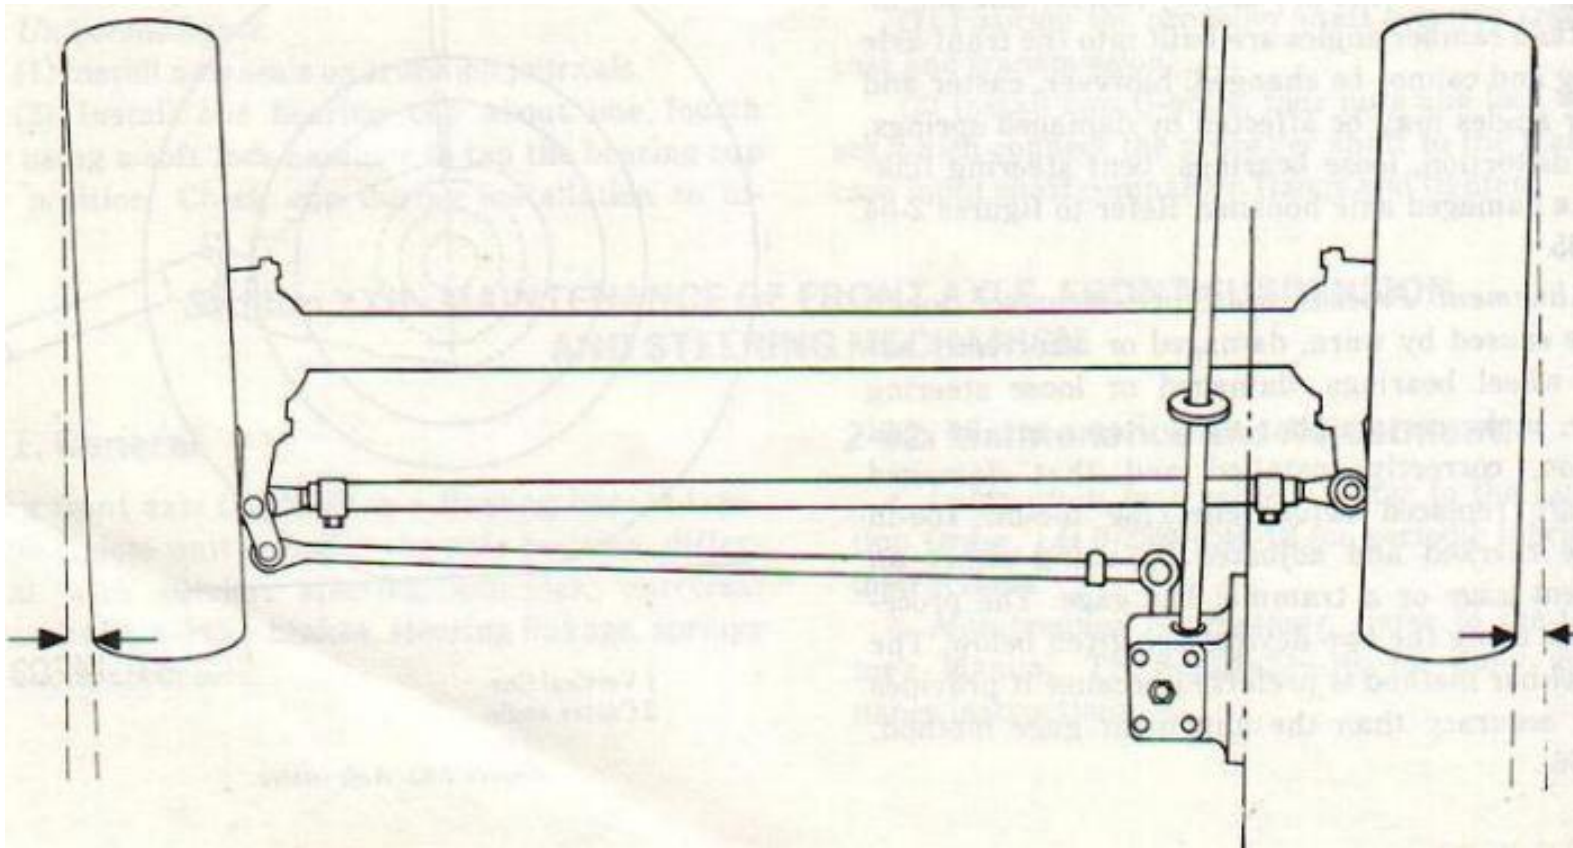

Figure 2-66 Front Wheel Toe-in (top view)
d. Alinement Procedures. Since incorrect toe-in may be caused by worn, damaged or incorrectly adjusted wheel bearings, damaged or loose steering linkage, make certain that these items are in good condition, correctly installed and that damaged parts are replaced before checking toe-in. Toe-in may be checked and adjusted by using either an alinement gage or a trammel bar gage. The procedures for using the two devices are given below. The trammel bar method is preferred because it provides greater accuracy than the alinement gage method. (Fig 2-66).